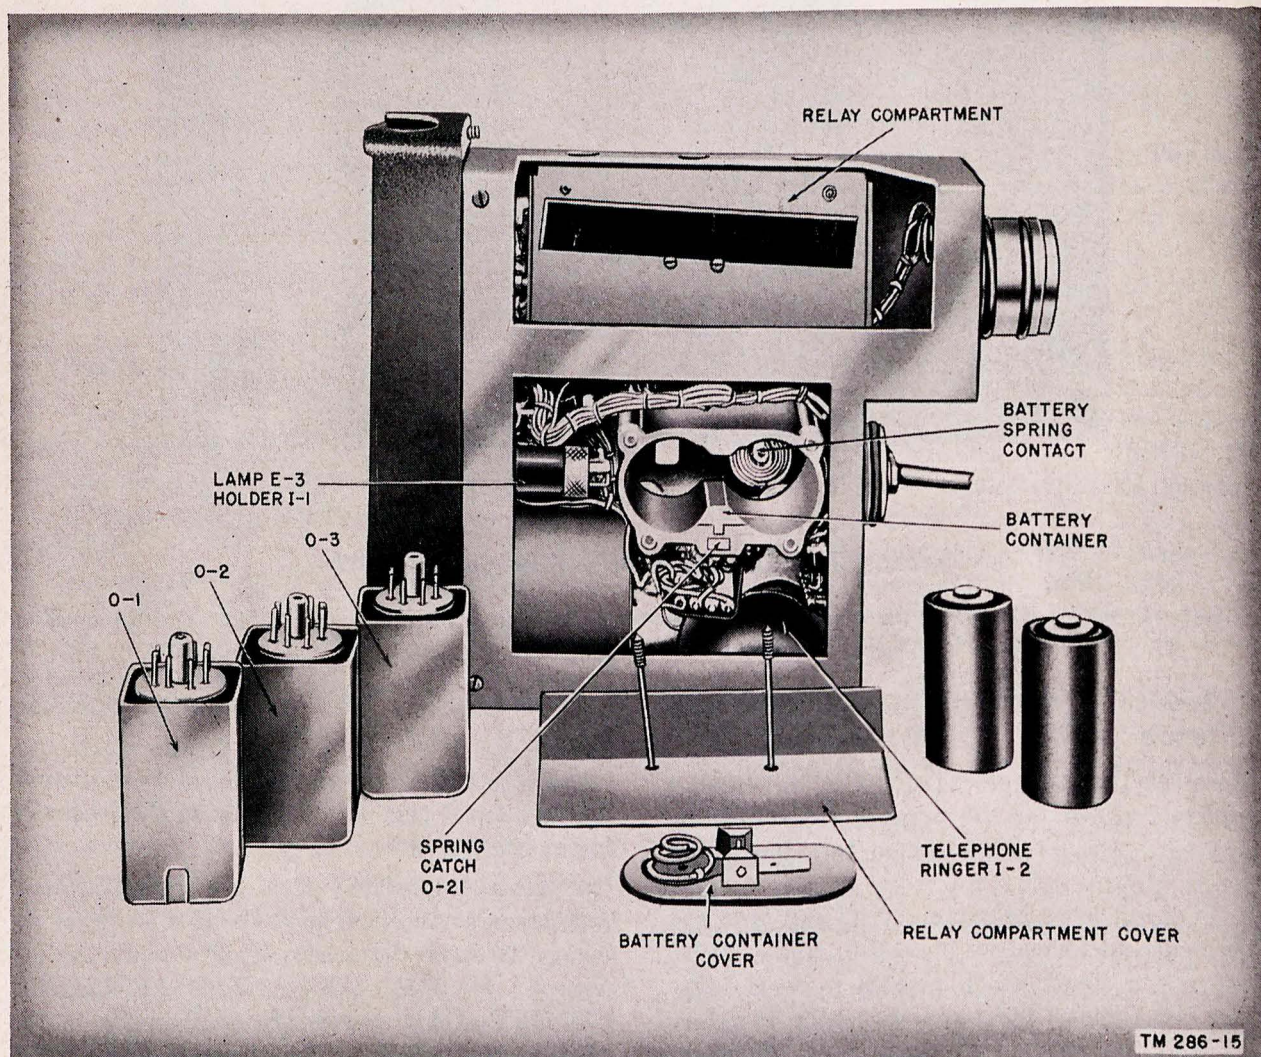

Figure 26. Local Control C-434/GRC, top view of chassis.
- (1) Loosen the screw fasteners on the panel and remove the panel-chassis assembly from the case.
- (2) Insert two 1½-volt Batteries BA-30 side by side in the battery compartment (fig. 26), making sure that the metal positive terminal of each battery touches its proper battery contact. Place the chassis-mounted switch (S-1) in the BELL position, and replace the panel-chassis assembly in the case.